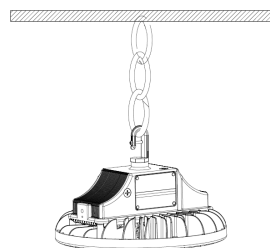

FIG. 3
3. Hang the fixture on suitable mounting surface. See Fig. 3